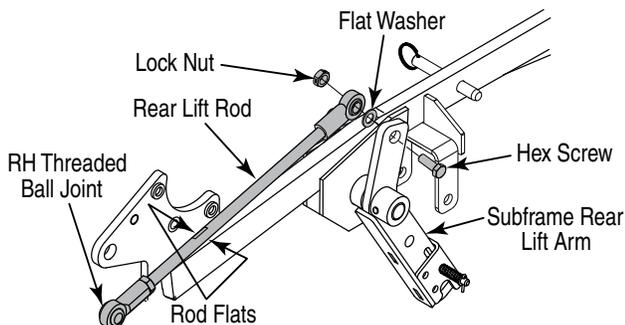

Figure 2
- Looking at either of the rear lift rod assemblies, locate the flattened areas on the rod near the RH threaded end of the rod. Position the rear lift rod assembly (3, See inset box of Figure 1) so that the flats of the rod, and RH threaded ball joint, are toward the rear of the subframe assembly. Refer to Figure 2.
- Position the LH threaded ball joint at the other end of the rear lift rod assembly between the top of the subframe rear lift arm and the subframe rail. See Figure 2.
- insert the hex screw through the ball joint and fasten with the hex lock nut (20). Tighten the hex lock nut until almost snug against the ball joint. Do not overtighten. Refer to Figure 2.